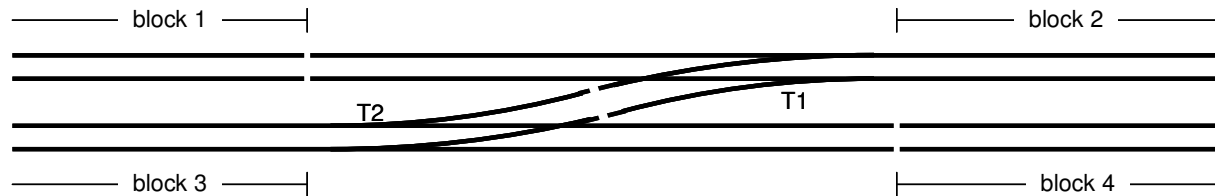

Fig 31: Attaching turnouts to an adjacent block
1. If you are using 'full detection', which means all axles of all your rolling stock shall draw some current from the tracks, your software can determine, if it supports this feature, in which block and section something is present. So, for instance, your software can see that a turnout-section is completely free before it is reserved for another train. In this case it is important that 'free' means 'truly free' and not that the last tiny part of your train still 'hangs over' the turnout. Therefore always keep some distance between the block-separation and the adjacent turnout, as shown in figure 31. Also if you do not use full detection, or if your software does not support it, it is good to keep the above rule in mind. What is not the case now may become the case in the future. Changing software is normally a lot easier than changing your physical layout.